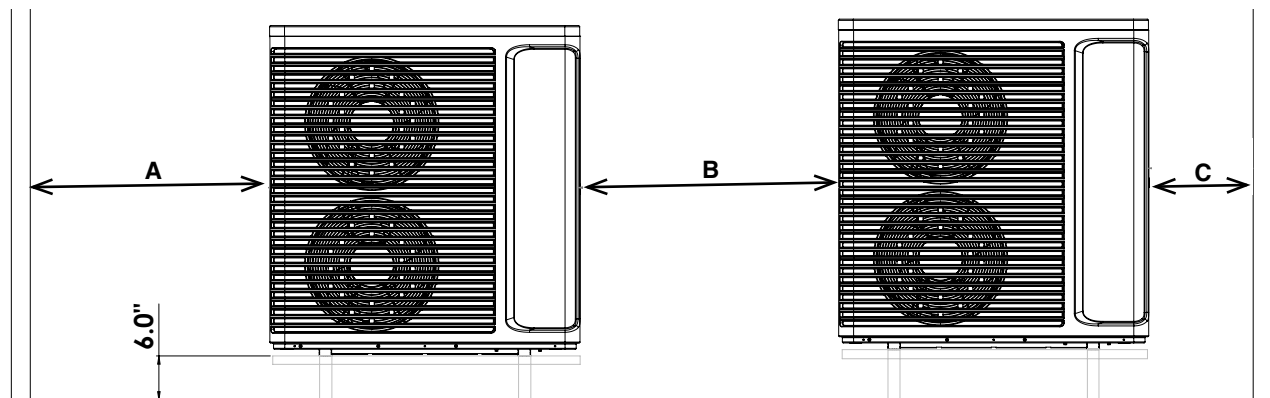

Figure 5-2: Minimum Service Clearances
1. Install unit outdoors with sufficient clearance for airflow into inlet and discharge air openings and adequate service access. Refer to Figures 5-2 and 5-3 for minimum clearances.